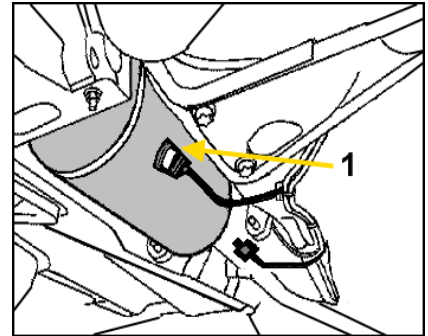

Figure 2
1. Remove the exhaust emission temperature sensor (Figure 2).